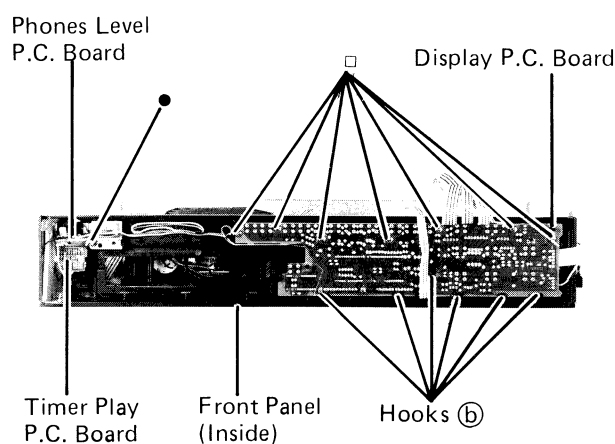

Figure 8
- (1) After removal of the front panel, remove seven screws marked "□" as shown in Figure 8.
- (2) Remove hooks (b) as shown in Figure 8.
- (1) After removal of the front panel, remove one screw marked "●" as shown in Figure 8.